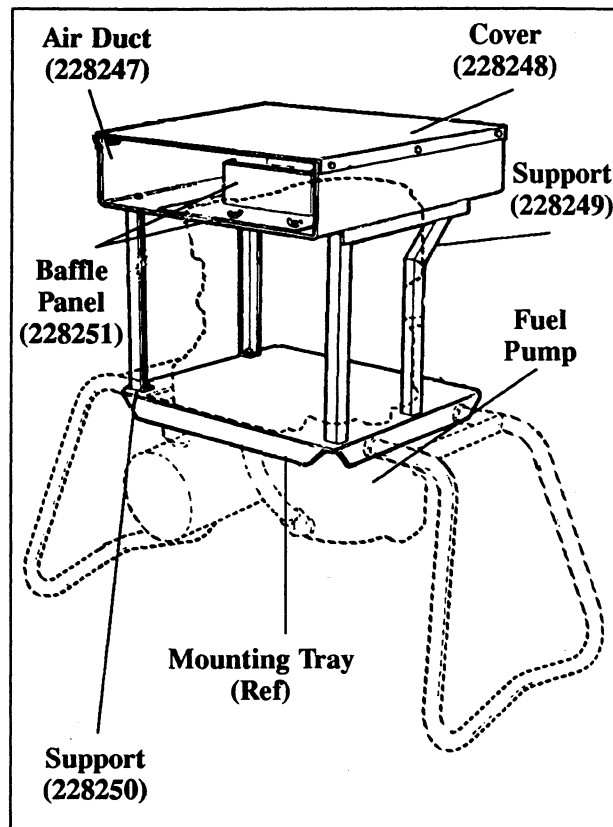

Figure 8-1. Bracket Position
Step 2. Attached support brackets (228249 and 228250) to mounting tray using four screws (X-5-1), lock washers (X-20-1) and nuts (X-81-1). The offset bracket (with 45° bend) should be mounted adjacent to fuel pump, as shown in Figure 8-1.